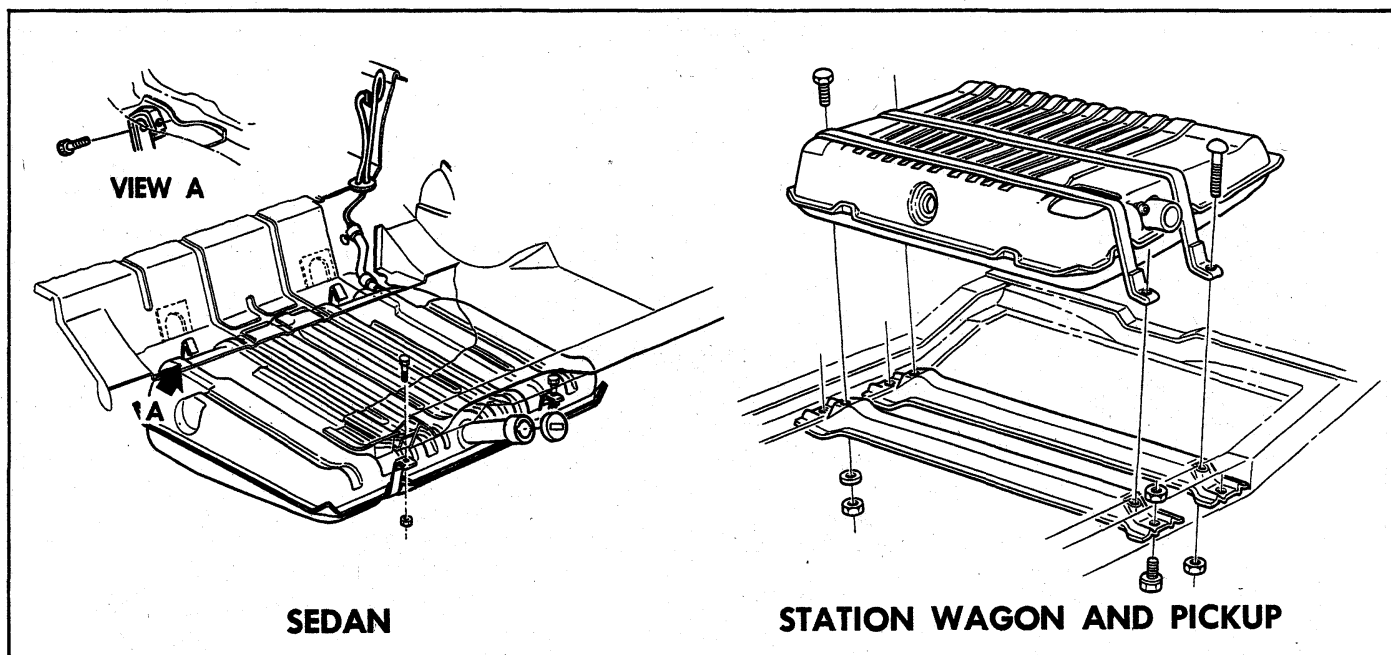

Fig. 8—Fuel Tanks
All models use a 20 gallon capacity (approx.) fuel tank mounted between the frame rails behind the rear axle. The fuel tanks are basically the same for sedan, 2-seat station wagon and pickup models except for filler neck location and venting (fig. 8).
All fuel tanks are vented to the atmosphere. Sedan model tanks have an external vent hose and pipe assembly (fig. 11) and use a non-vented fuel cap. Station wagon and pickup model tanks are vented through a hose and vent pipe assembly to the filler neck (fig. 8) and use a vented, anti-surge type gas cap. The fuel caps are two different designs conforming to SAE standards and are not interchangeable.
3. Remove frame screw attachments from the front support (fig. 8).
Sedan model fuel tanks are vented to the atmosphere at the top right forward edge of the tank. The vent line is connected by a rubber hose with two clamps one at the tank and the other at the vent pipe which is secured to the underbody as shown in Figure 8. A rubber grommet around the vent pipe acts as a seal to prevent gasoline fumes from entering the passenger compartment.